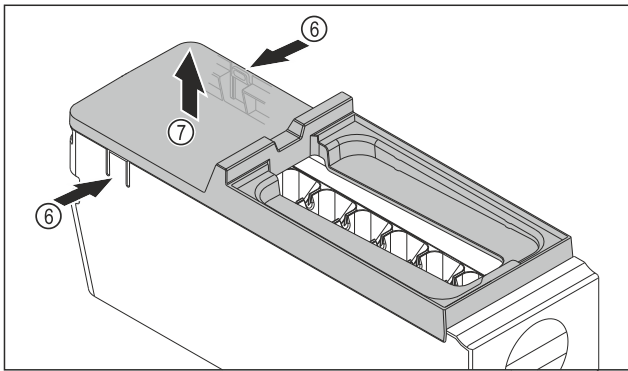

Fig. 164
- ▶ Removing the cover of the EasyTwist-Ice body: With one hand, press the tabs Fig. 164 (6) on both sides of the EasyTwist-Ice body.
- ▶ With the other hand, remove the cover Fig. 164 (7) upward.